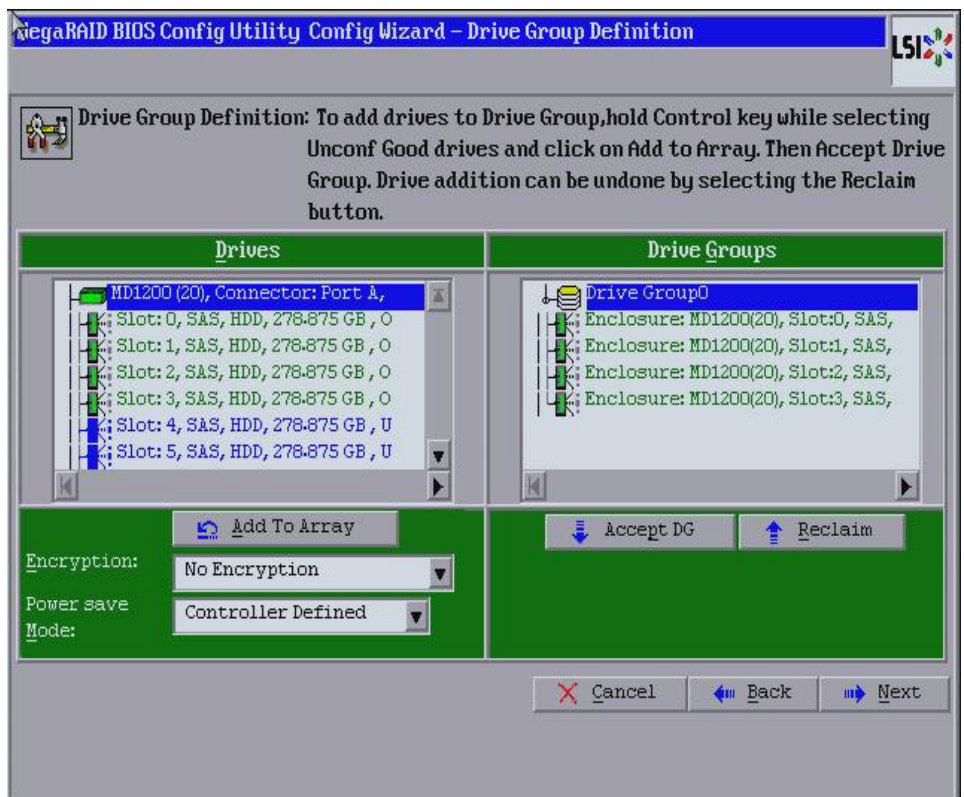

Figure 38: Drive Group Definition Dialog
2. Click **Add To Array** to move the drives to a proposed drive group configuration in the **Drive Groups** panel on the right, as shown in Figure 38.